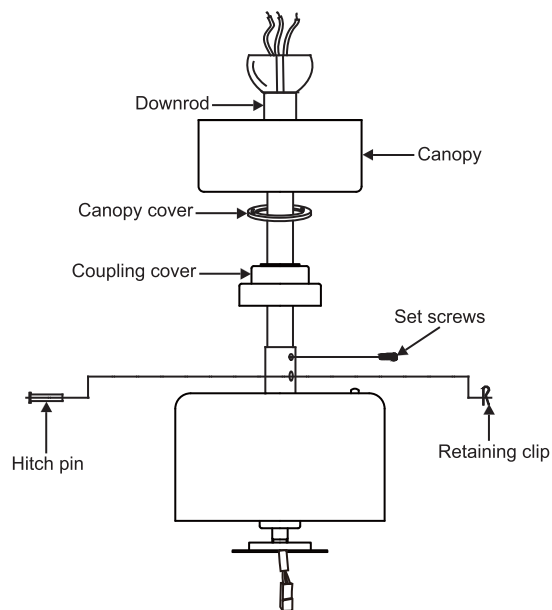

Fig. 9
Step 8. Slip the coupling cover , canopy cover and canopy onto the downrod. (**Fig. 9**)
Thread the hanger ball onto the downrod, insert the cross pin through the downrod and tighten. Now tighten the set screw. (**Fig. 9**)